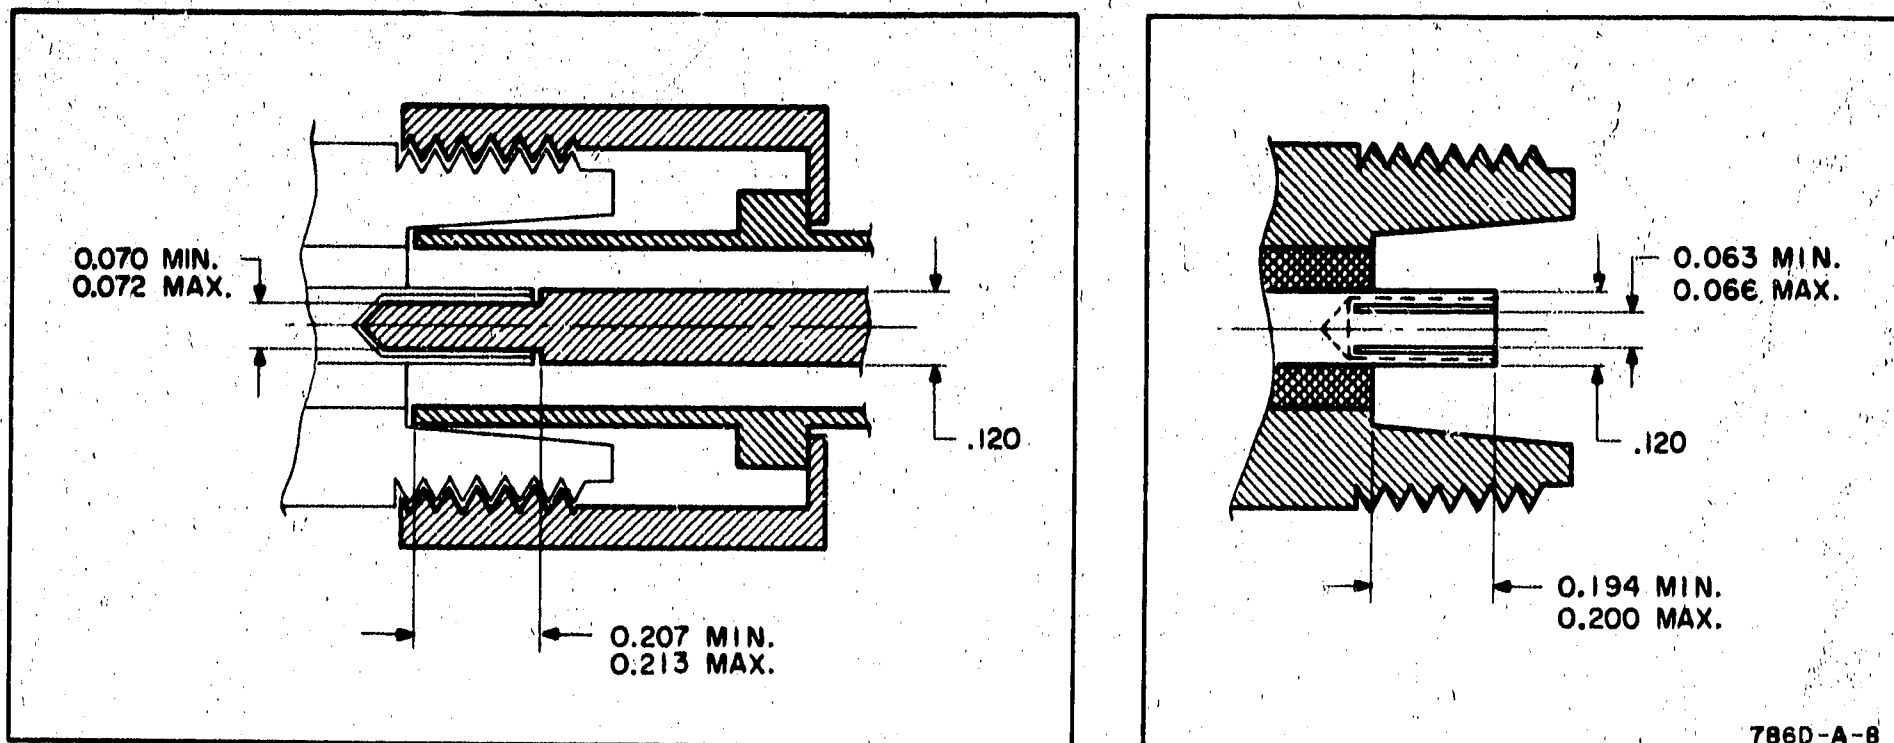

Figure 3. Precision Type N Connector Dimensions
a. The type N connectors are Ⓢ precision type N connectors which are designed to mate with standard 50-ohm type N connectors. When mating with any other device equipped with Ⓢ precision type N connectors, connector damage will result unless an adapter is used. Precision connector dimensions are given in Figure 3.
b. The detector element used is sensitive to either amplitude-modulated or continuous-wave (CW) RF power. If RF power is amplitude modulated at a 1000-cps  $\pm 2\%$  rate, the sensitive Ⓢ Model 415B or 415D (SWR Meter) can be used as the indicator. For CW detection, a DC milliammeter or millivoltmeter (with an input impedance of at least 100K ohms), such as the Ⓢ Model 425A Microvolt-Ammeter can be used as the indicator.